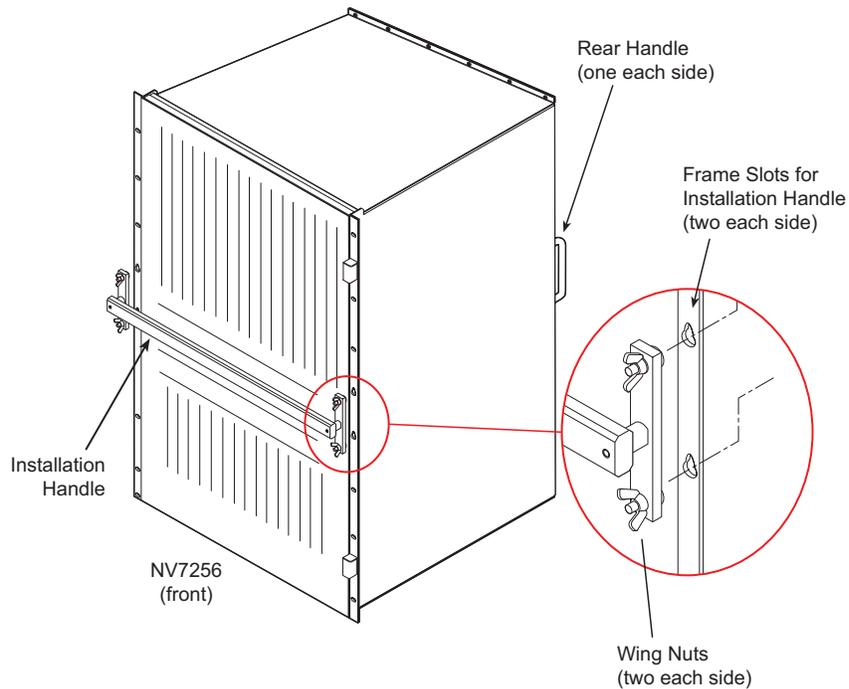

Figure 3-1. Frame Installation Handles, Front and Rear
- 8 Install the temporary installation handle on the front of the frame, as shown in Figure 3-1. The handle fits into the keyhole-shaped slots. Use these handles to lift the frame into position.